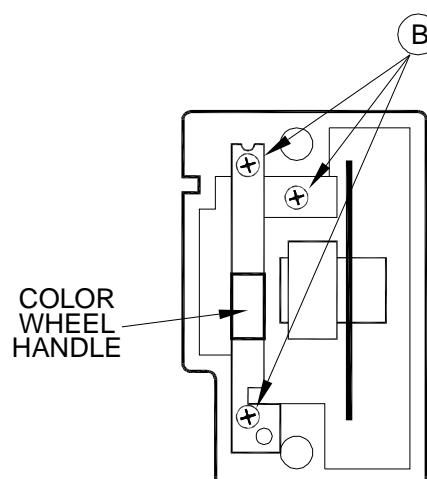

Figure 2: Color Wheel
- 6) Remove 3 screws (B) shown in *Figure 2*.